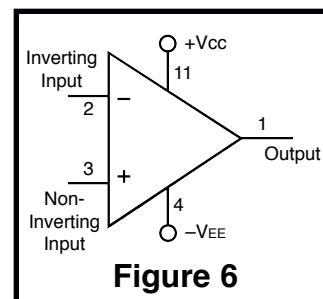
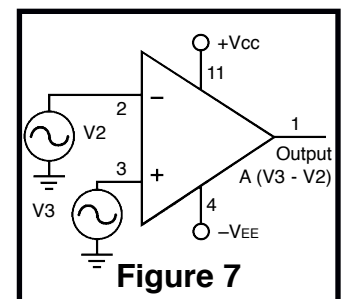

Figure 6
Figure 7
The op-amp has two input terminals, inverting input (−) and non-inverting input (+), and one output terminal. Figure 6 shows the standard op-amp symbol. The two input terminals are labeled 2 and 3, and the output is 1. Most op-amps operate with two DC power supplies, +V_{CC} and −V_{EE} connect to pins 11 and 4 respectively. Since a single power supply is used in the kit, −V_{EE} (pin 4) is tied to ground. The op-amp multiplies the difference between the voltage signals applied at its two input terminals (V₃−V₂) times the gain of the amplifier (A). A × (V₃−V₂) appears at the output terminal as shown in Figure 7.